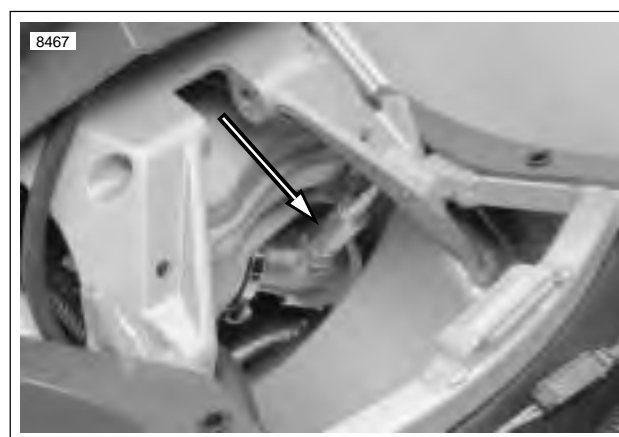

Figure 4-149. Oxygen Sensor (shock absorber removed)
- **Loose O2 sensor.** See Figure 4-149. If the O2 sensor is loose engine performance may be affected. This could also show up as a slow changing O2 sensor voltage.